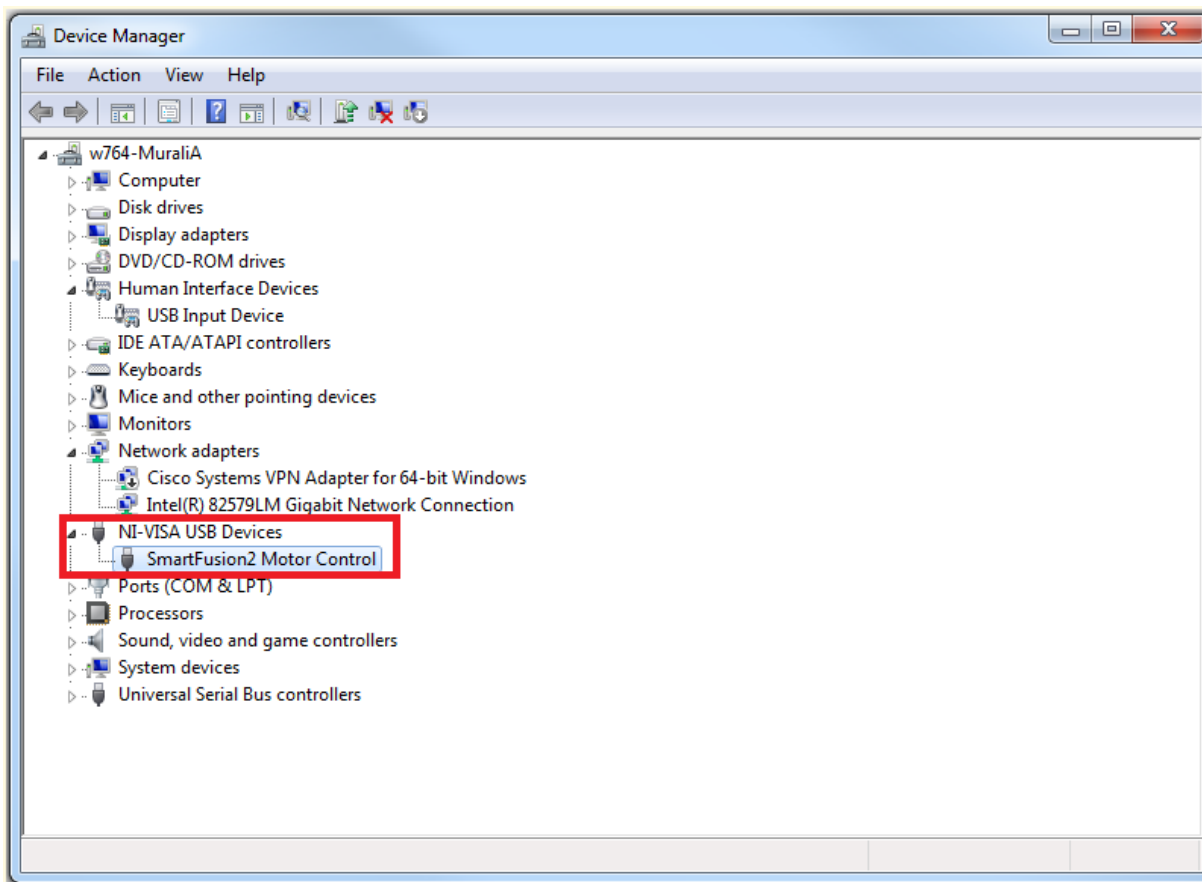

Figure 15 • Verifying the Installed Driver Software
16. Check for **NI-VISA-USB Devices** in the **Device Manager** window to ensure that the driver is installed successfully as shown in Figure 15.